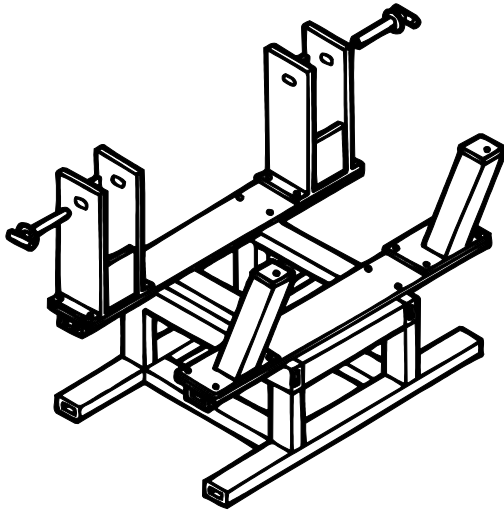

Figure 8: HT Axle Locating Fixture, *unassembled* suspension configuration
11. Axle locating fixture (recommended): Figure 4 on page 8, Figure 8 on page 10 or Figure 33 on page 23. Use of these fixtures is recommended, contact sales representative or refer to CONTACTING HENDRICKSON on page 5 for information.
The procedures in this section assume a Hendrickson HT Axle Locating Fixture (Figure 4 and Figure 8) is used. The HT Axle Locating Fixture (axle on top of positioned beams) can be used to install all HT underslung and top-mount style suspensions, providing the correct pivot and beam stands are supplied.
1. **Configure** the HT Axle Locating Fixture (Figure 8) with the proper beam and pivot stands for the suspension being assembled. Adjust for desired beam center spacing.